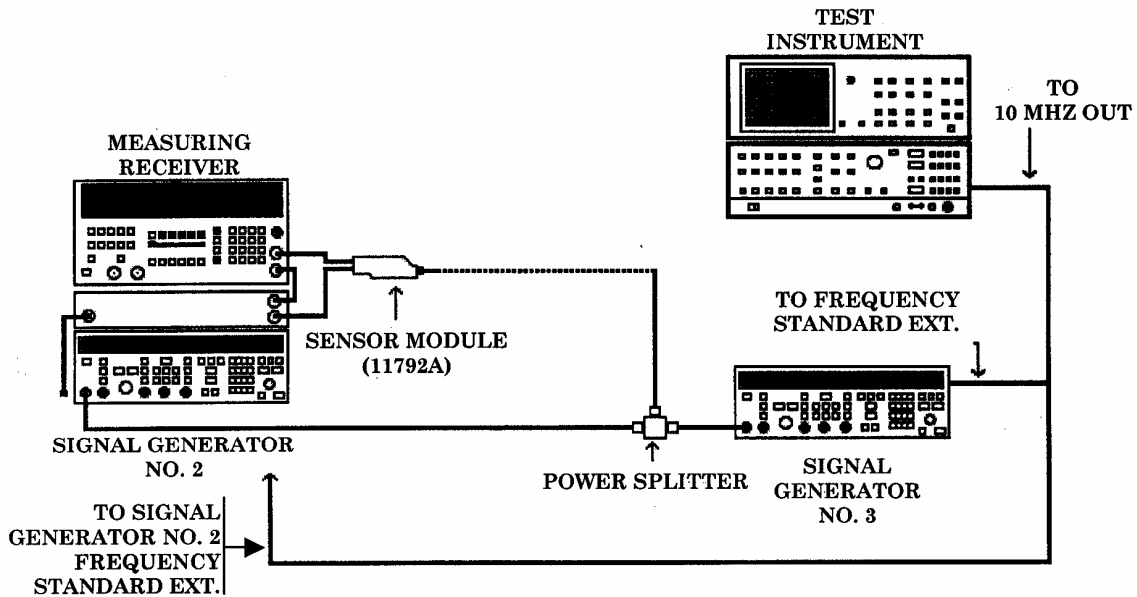

Figure 29. Harmonic distortion setup.
- (31) Press TI **2-22 GHz** key.
- (32) Connect equipment as shown in figure 29.